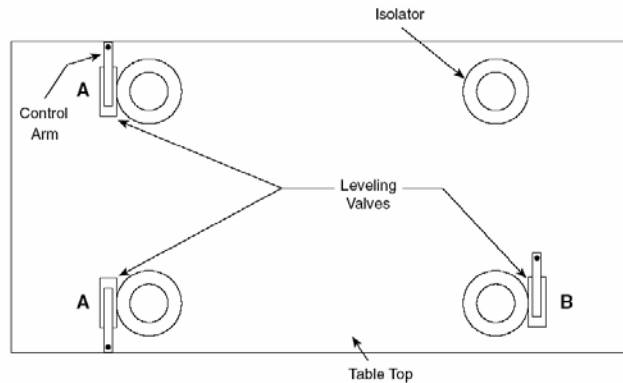

Figure 7 — Orientation of Control Arm
3. Rotate the control arm on valves “A” in Figure 7 so that they point towards the nearest corner of the table.